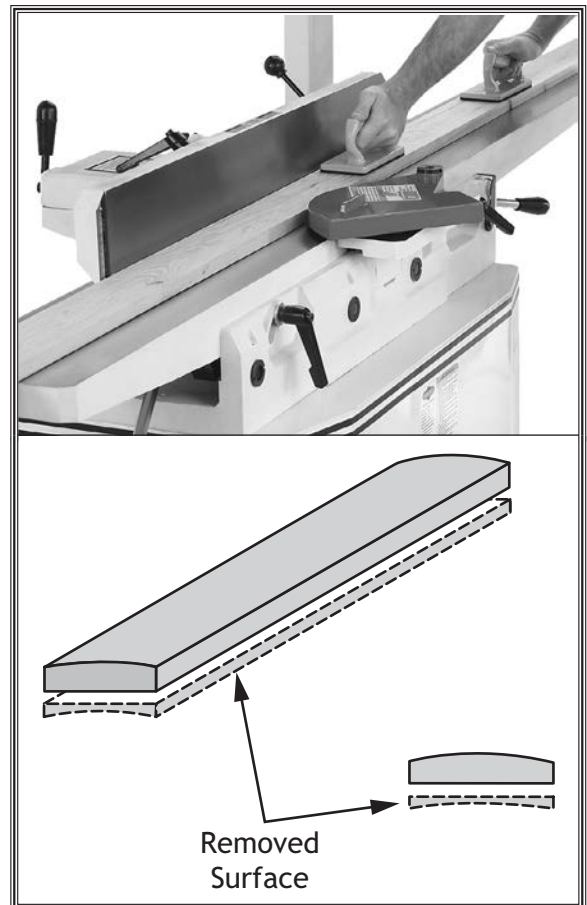

Figure 24. Example of a typical surface planing operation.
The purpose of surface planing (see **Figure 24**) on the jointer is to make one flat face on a piece of stock to prepare it for thickness planing on a planer.
5. Place workpiece firmly against fence and infeed table with concave side facing down, as shown in **Figure 24**.